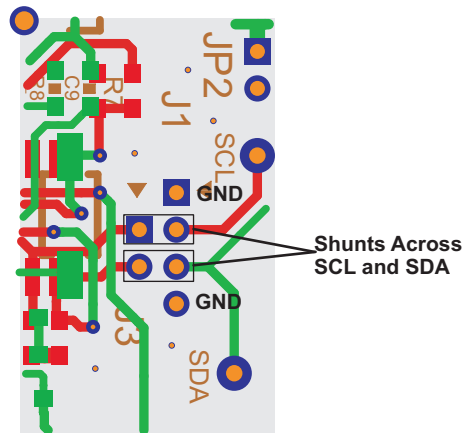

Figure 1. YFF EVM—Place Shunts Horizontally Across SCL and SDA
4. Install shunts to connect J1-SCL to J3-SCL, and J1-SDA to J3-SDA as shown in Figure 1. This sets the TPA6140A2 to accept I²C inputs from the EVM itself.